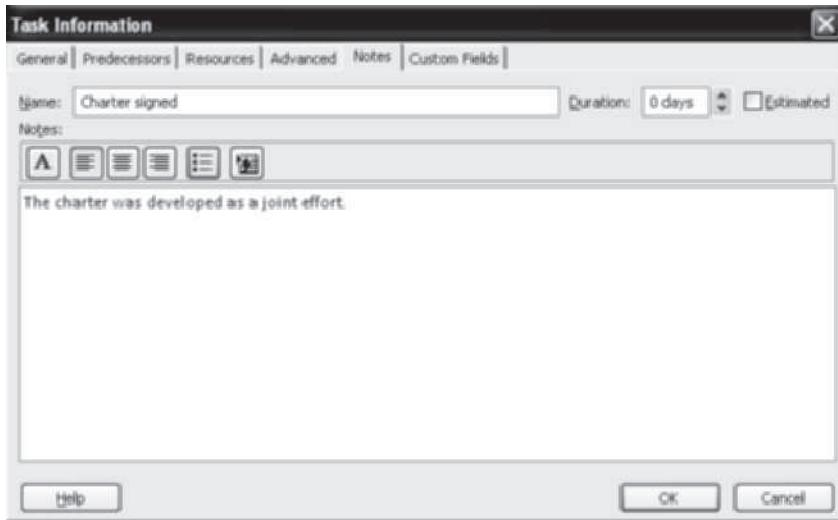

FIGURE A-67 Task Information dialog box Notes tab
2. Enter your note text. Type **The charter was developed as a joint effort.** in the Notes text box, as shown in Figure A-67.